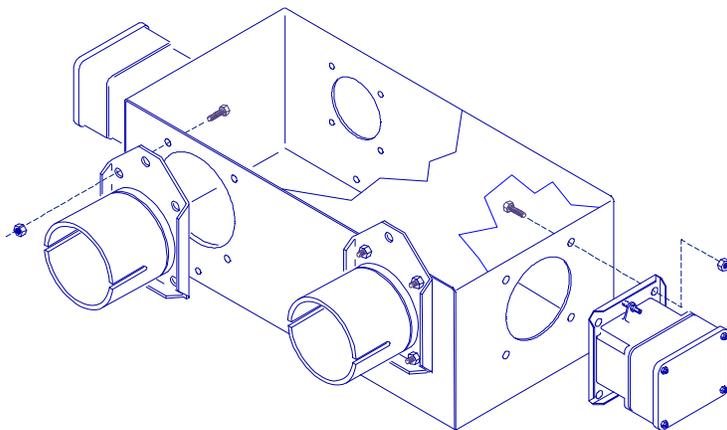

Figure 1.
1. Secure the Safety Switches to the ends of the Control Unit Body as shown in Figure 1, using 10-32 hardware supplied.
2. Secure the Anchor Tube Weldments to the Control Unit Body as shown in Figure 1, using 5/16-18 hardware supplied.